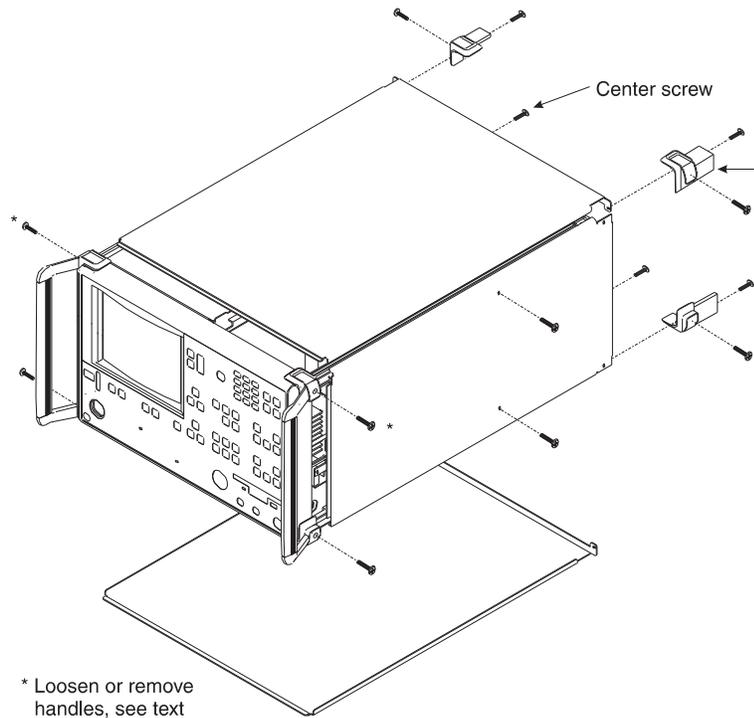

Figure 8-1. Exploded View of 37XXXD Chassis Covers
- Remove the feet from the two top corners at the rear of the VNA (Figure 8-1).